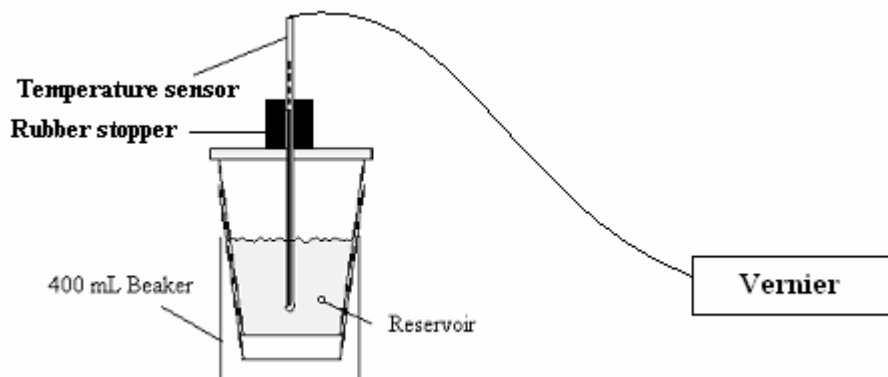

Figure 1
1. Set up the calorimeter in a 400-mL beaker as shown in Figure 1. Measure 50 mL of 1.0 M NaOH using a graduated cylinder, add it to the calorimeter and record the exact volume and molarity of the solution (as indicated on the bottle containing the NaOH solution) in your laboratory notebook.